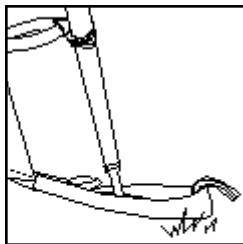

Figure 8A
11. Stake the tent down (figures 8A and 8B)!